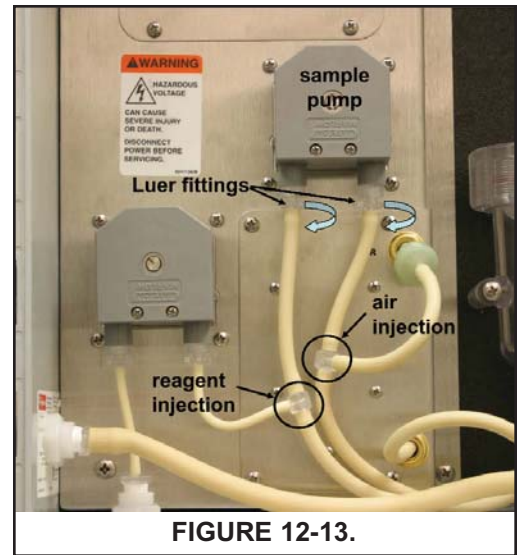

FIGURE 12-13.
2. Refer to Figure 12-13. Disconnect the reagent and air injection tubes. Disconnect the suction and discharge tubing by turning the Luer fitting in the direction shown in the figure. Disconnect the air pump inlet tubing from the barbed fitting in the bottom of the enclosure.